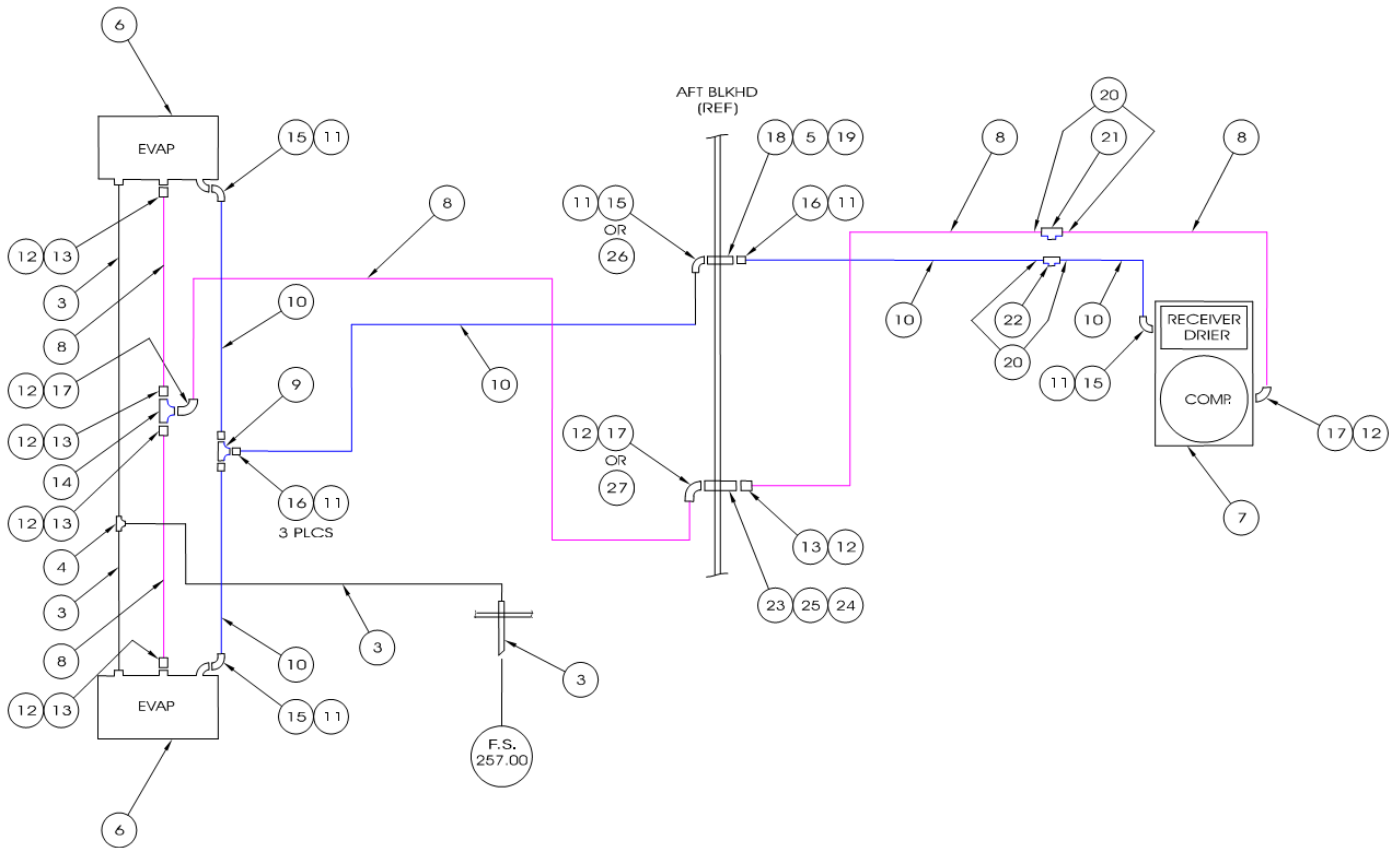

Figure 1: Plumbing System
3. **PLUMBING CHECK PROCEDURES (REF. IPC Fig. 1)**